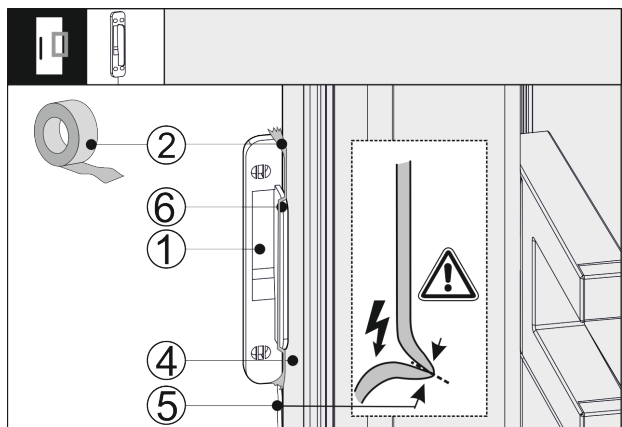

Fig. 42
- Place the knocking sensor Fig. 42 (1) on the side of the appliance door Fig. 42 (4) so that the stop Fig. 42 (6) touches the appliance door Fig. 42 (4). The sensor cable Fig. 42 (5) is slightly tensioned and also touches the appliance door Fig. 42 (4).
- Attach the knocking sensor Fig. 42 (1) with adhesive table Fig. 42 (2). The knocking sensor is later screwed onto the cabinet front.